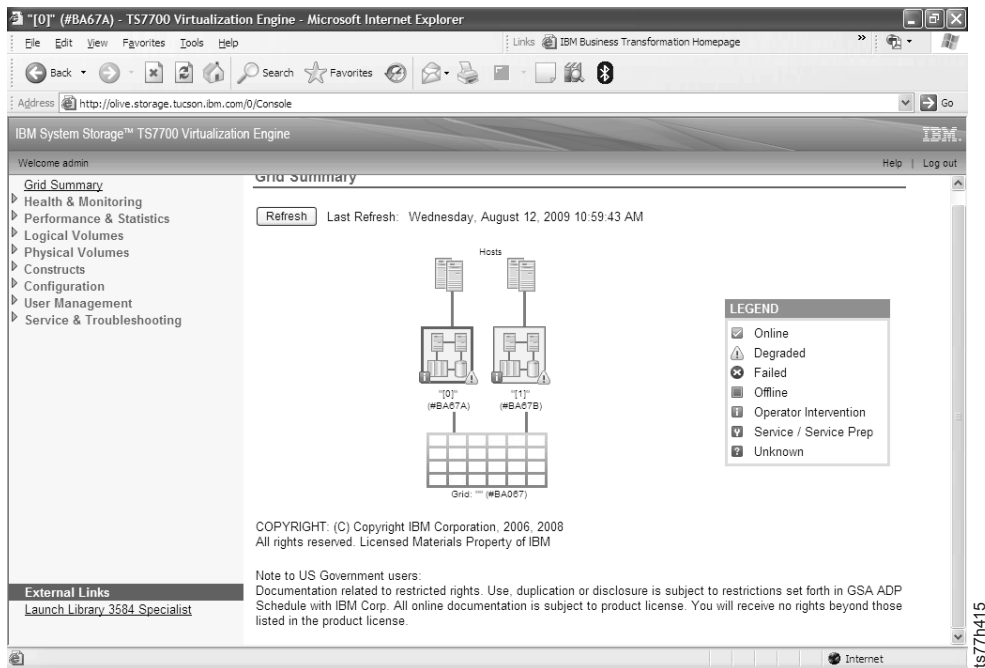

Figure 28. IBM Virtualization Engine TS7740 welcome screen
3. In the left hand navigation panel, as shown in Figure 28, select **Configuration > Feature Licenses**.
1. In the left hand navigation panel, as shown in Figure 28 on page 89, select **Health and Monitoring > Physical Tape Drives**. The *Physical Tape Drives* page displays, as shown in Figure 30.
1. From the left hand navigation panel as shown in Figure 28 on page 89, select **Configuration > Encryption Key Server Addresses**.